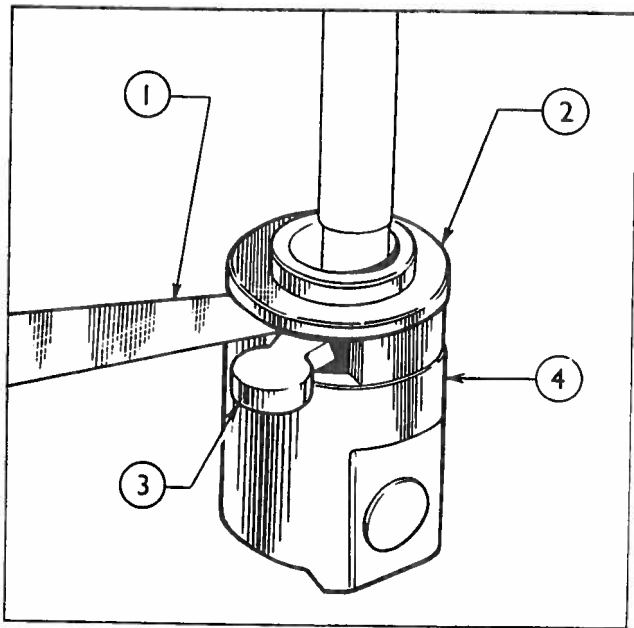

Fig. 22 Measuring the plunger vertical movement
- 14. Pass the plungers through the lower spring seats, holding the seats on the tappet assemblies, check that the plungers have a vertical movement of 0,05 to 0,25 mm (0,002 to 0,010 in), Fig. 22. (Fit the steel 'T' pieces to their locations in the housing for the 'Minimec' pump.)